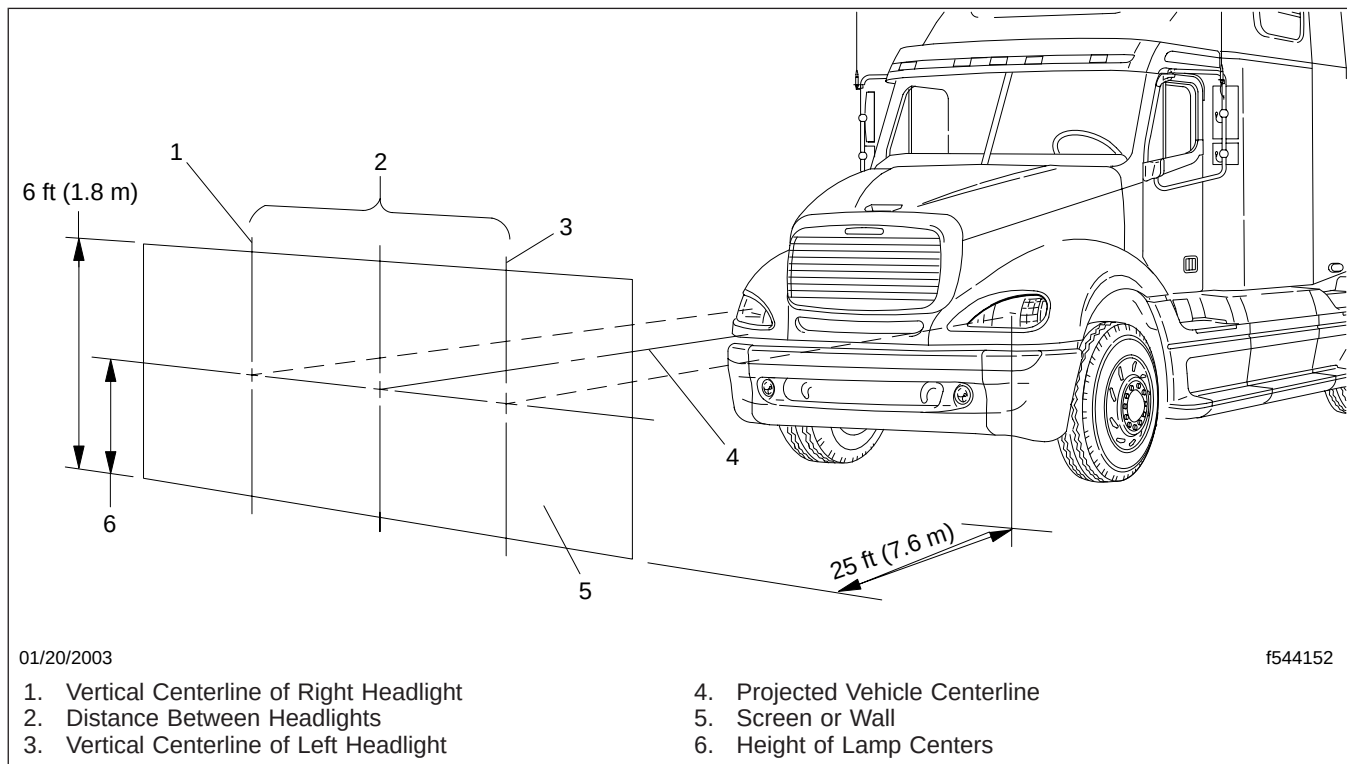

Fig. 14.1, Headlight Aiming Screen or Wall
1. Park the vehicle on a level surface 25 ft (7.6 m) from a screen or wall that can be used for aiming the headlights. Shut down the engine, apply the parking brake, and chock the front tires. See Fig. 14.1.